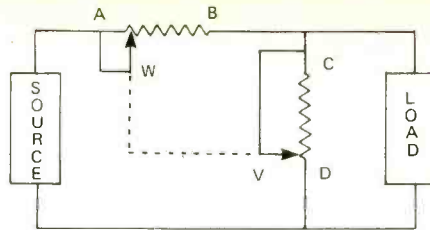

Figure 4
An L-pad (see Fig. 4) is a device, also based on variable resistances, with the characteristic of maintaining a (more or less) constant resistance across the voltage source. The total resistance across the source at any setting of the L-pad is equal to the sum of the resistances R_{WB} and R_{CV} . The segments R_{AW} and R_{VD} are shorted out by the wired connection of the wipers w and v to points A and D , respectively.
This has the dual effect of (1) controlling the total power (power=current x voltage) delivered to the load through the current-controlling action of R_1 and R_2 (actually connected as a rheostat), and (2) maintaining a constant total resistance across the source ($R_{AD} = R_{WB} + R_{VD}$). L-pads are used in audio power control circuits. For example, the tweeter and midrange controls on speaker systems are generally L-pads. Although an L-pad will provide constant resistance across a source, there is no such provision going the other way. That is, the effective resistance of R_{VD} can be *zero*. Therefore, if a commercially manufactured L-pad is to be used in a high-power audio circuit, extreme care must be used in installation to prevent the L-pad from being wired in reverse. That is, the elements labeled R_1 and R_2 in Fig. 4 should always be connected to the source. Otherwise a high power audio signal will be short-circuited, with results that may be something close to spectacular.